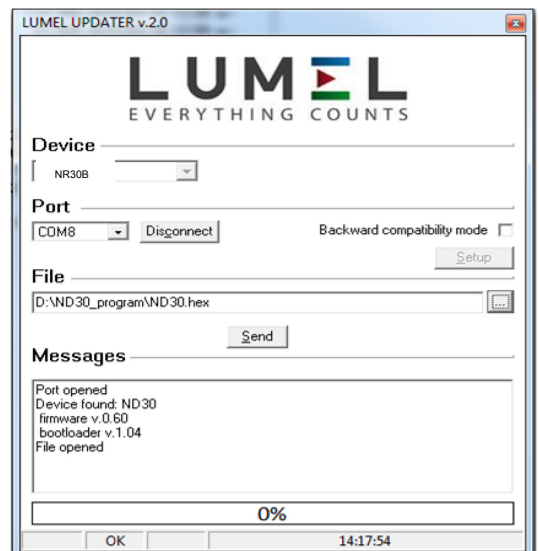

Fig.24. View of program window: a) eCon, b) firmware upgrade
After starting eCon the serial port, speed, mode and meter address should be set in the settings. Then select NR30BAC meter and click Configure To read all the settings, click the down arrow, then the floppy icon to save the settings to a file (to restore them later). After selecting *Update firmware* (in the upper right corner of the screen) *Lumel Updater* (LU) window will open - Fig. 24.b. Press *Connect*. *Messages* information window contains info about the progress of the upgrade process. When the port is properly opened the display shows: *Port opened*. There are two ways to enter the upgrade mode: remotely through the LU (based on settings in eCon - address, mode, speed, COM port) and by turning on the meter power with the button  pushed (when entering the bootloader mode with the button, communication parameters: speed 9600, RTU8N2, address 1). The display will show boot with bootloader version, and LU program will show the message *Device found* and the name and program version of the connected device. Press the „...” button and select the meter update file. When the file is properly opened *File opened* message is displayed. Press the Send button. After successful upgrade the meter switches to normal operation, and the information window shows *Done* and the upgrade duration. After closing the LU window, go to *Service Parameters*, select *Set Meter Defaults* and press the *Restore* button. Then press the folder icon to open the previously saved settings file and press the up arrow to save the settings in the meter. The current software version can also be checked by reading the greeting messages of the meter after powering up.